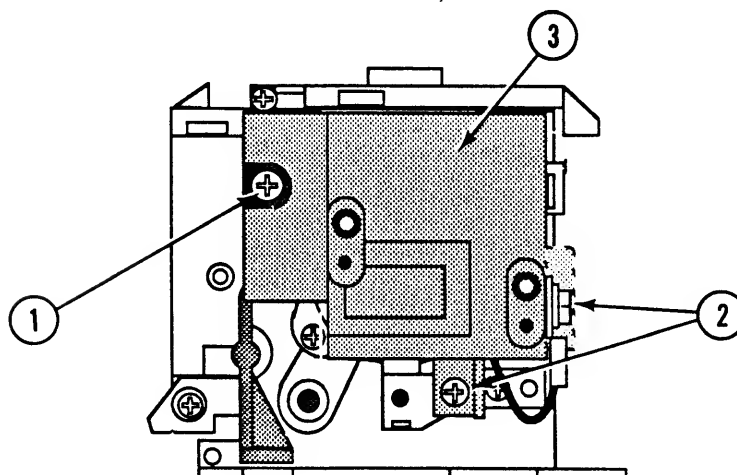

FIGURE 11
8. Remove the three Phillips screws (Figure 11, #1 and #2) that secure the left terminal mount (Figure 11, #3) to the fuser assembly. Remove the terminal mount.